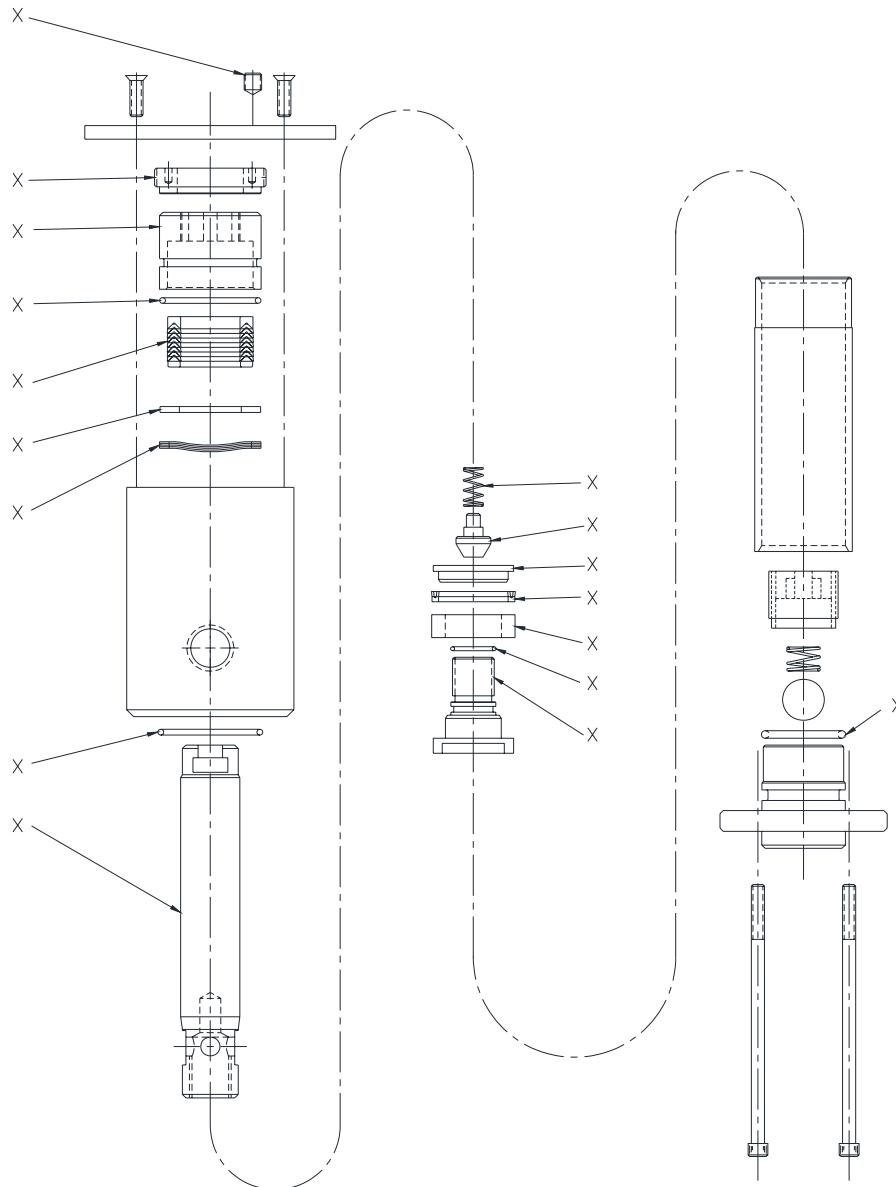

Figure 7-2. Disassembly
1. Disassemble the bottom portion of the pump as shown in Figure 7-2.